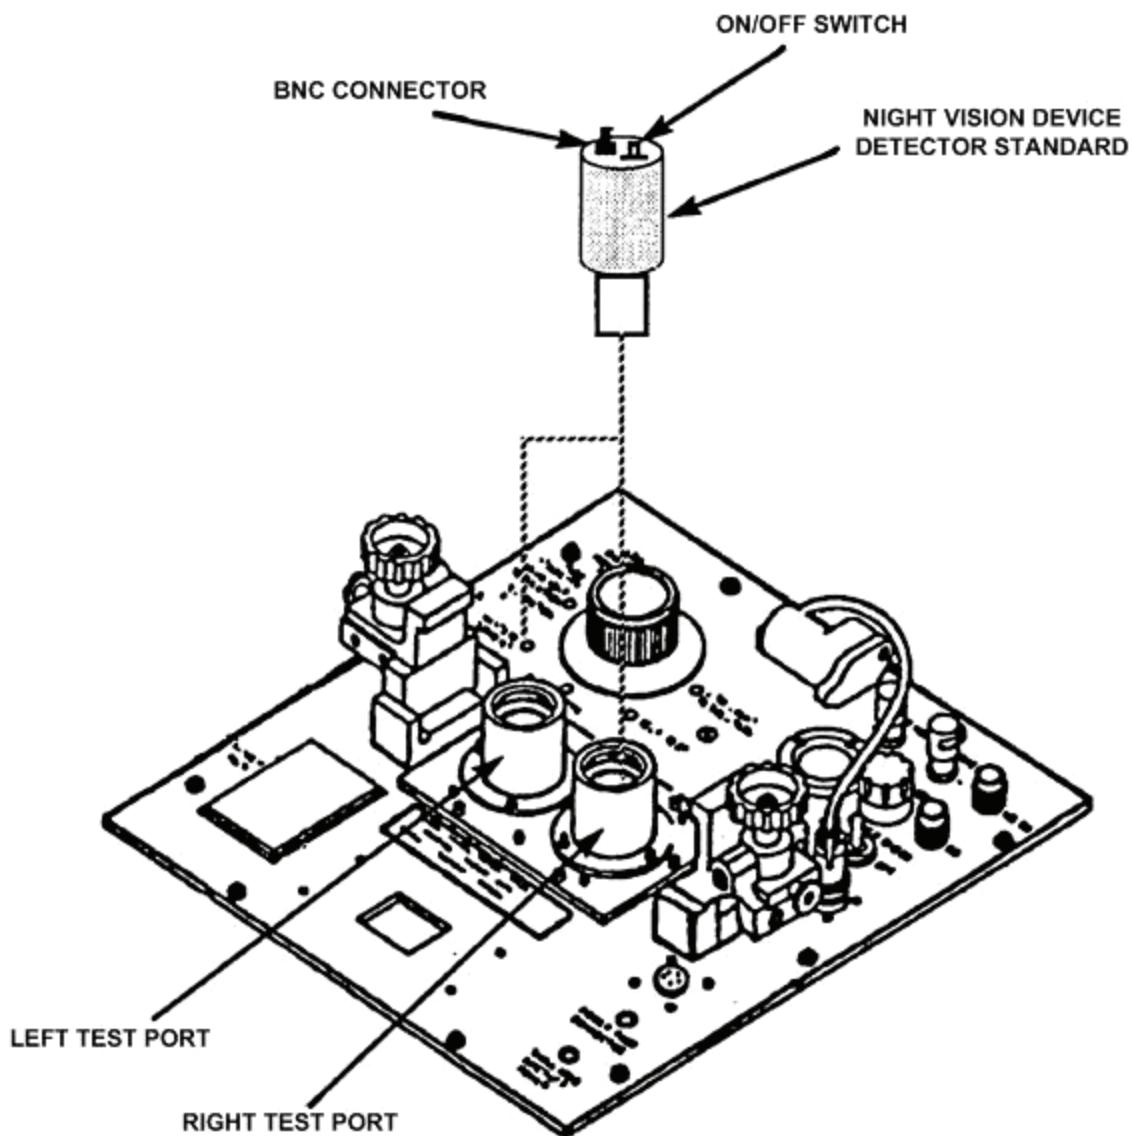
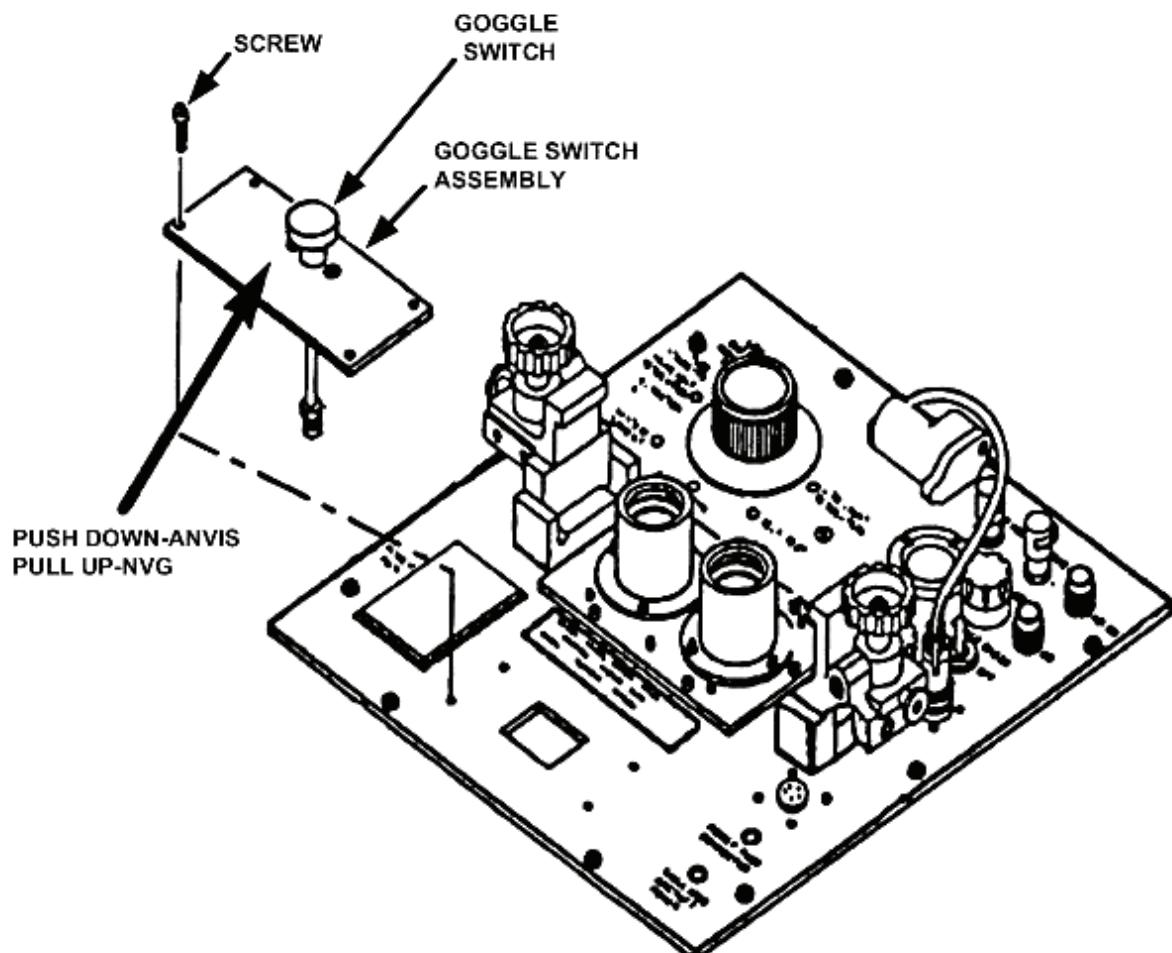
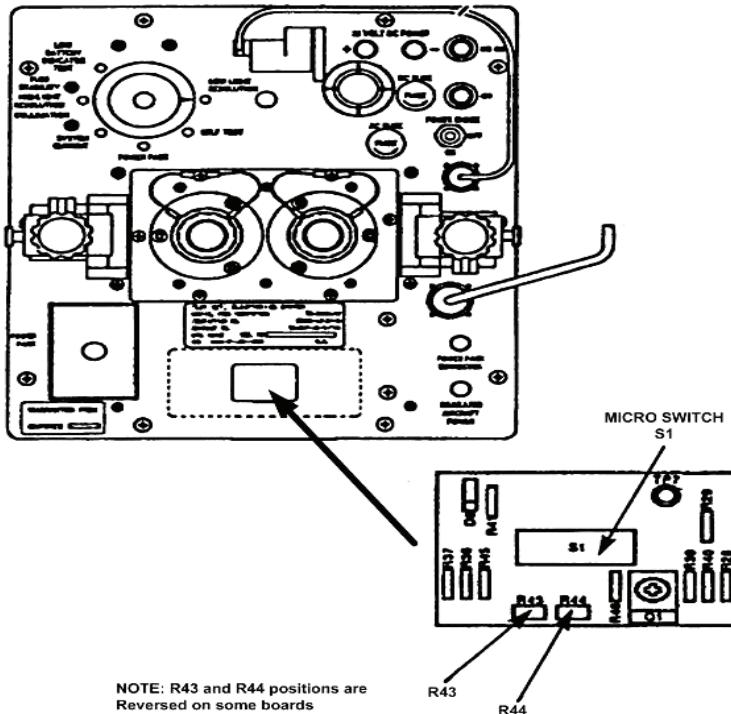

Figure 1. TS-3895A/UV control panel.
Figure 2. TS-3895A/UV control panel.
Figure 3. TS-3895A/UV - adjustment locations.
- (1) Connect multimeter **Input HI and LO** to night vision device detector standard BNC CONNECTOR (fig. 1).
- (2) Install night vision device detector standard into TI RIGHT TEST PORT (fig. 1). Install lens cap/target over TI LEFT TEST PORT (fig. 1).
- (3) Turn night vision device detector standard power ON/OFF SWITCH (fig. 1) to **ON** and allow night vision detector standard to warm-up 5 minutes.
- (4) Set TI **ON-OFF-POWER CHECK** switch to **ON** and rotate selector switch to **LOW LIGHT LEVEL RESOLUTION**.
(5) Pull TI ANVIS/NVG GOGGLE SWITCH (fig. 2) to **NVG** (up) position. If multimeter does not indicate between 3.04 and 5.90 mV dc, perform **b** (1), (2), and (4) below.
(6) Push TI ANVIS/NVG GOGGLE SWITCH (fig. 2) to **ANVIS** (down) position. If multimeter does not indicate between 0.82 and 1.60 mV dc, perform **b** (1), (3), and (4) below.
(7) Remove lens cap/target from TI Left Test Port (fig. 1) and remove night vision device detector standard from **RIGHT TEST PORT** (fig. 1) and install in **TI LEFT TEST PORT** (fig. 1). Install lens cap/target over **TI RIGHT TEST PORT** (fig. 1).
(8) Repeat (5) and (6) above.
(9) Rotate TI selector switch to **SELF TEST**. **GO** (green) light will illuminate.
(10) Rotate TI selector switch to **HIGHLIGHT LEVEL RESOLUTION**.
(11) Pull TI ANVIS/NVG GOGGLE SWITCH (fig. 2) to **NVG** (up) position. Multimeter will indicate between 0.570 and 1.710 V dc.
(12) Push TI ANVIS/NVG GOGGLE SWITCH (fig. 2) to **ANVIS** (down) position. Multimeter will indicate between 0.155 and 0.464 V dc.
(13) Remove lens cap/target from **TI RIGHT TEST PORT** (fig. 1) and remove night vision device detector standard from **LEFT TEST PORT** (fig. 1) and install in **TI RIGHT TEST PORT** (fig. 1). Install lens cap/target over **LEFT TEST PORT** (fig. 1).
(14) Repeat (11) and (12) above.
- (1) Remove GOGGLE SWITCH ASSEMBLY (fig. 2) using tamper-proof bit.
Temporarily install GOGGLE SWITCH ASSEMBLY (fig. 2) after making adjustment.
- (2) Adjust R43 (fig. 3) for a 4.47 mV dc multimeter indication (R).
- (3) Press S1 micro switch (fig. 3) and adjust R44 (fig. 3) for a 1.21 mV dc multimeter indication (R). Temporarily install goggle switch assembly (fig. 2) with ANVIS/NVG goggle switch (fig. 2) in the down position.
- (4) Install goggle switch assembly (fig. 2) using tamper proof bit.